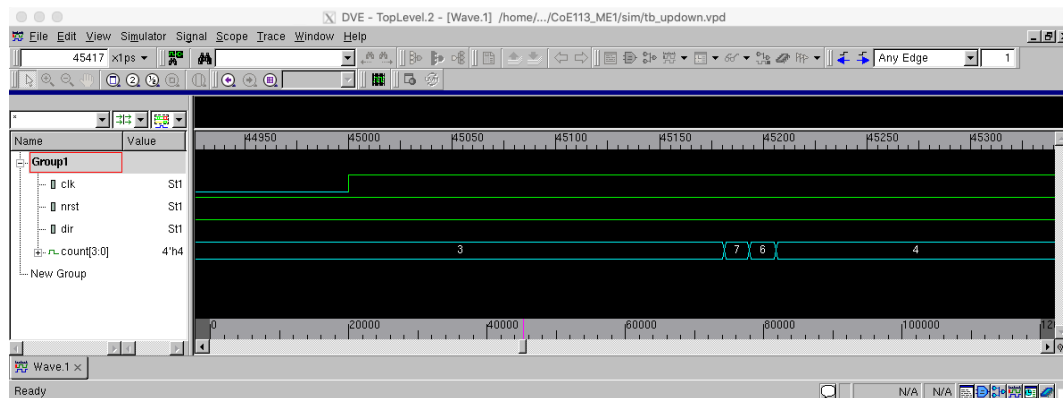

Figure 7: Glitches and logic delay in synthesized design.
5. Select all of the signals in the *tb_updown* module and display them in the waveform viewer. One important difference between the synthesized and unsynthesized designs is that glitches and logic delays are introduced in the synthesized design. Zooming in to a rising edge clock transition clearly shows this, as shown in Figure 7. Show this simulation waveform to your instructor.